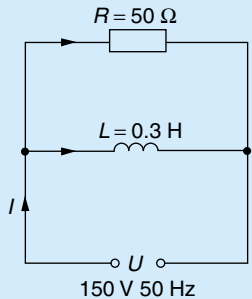

Figure 59
2. Determine the resultant current I and its phase relationship with the supply voltage U in Figure 59. What is the power factor of the circuit?